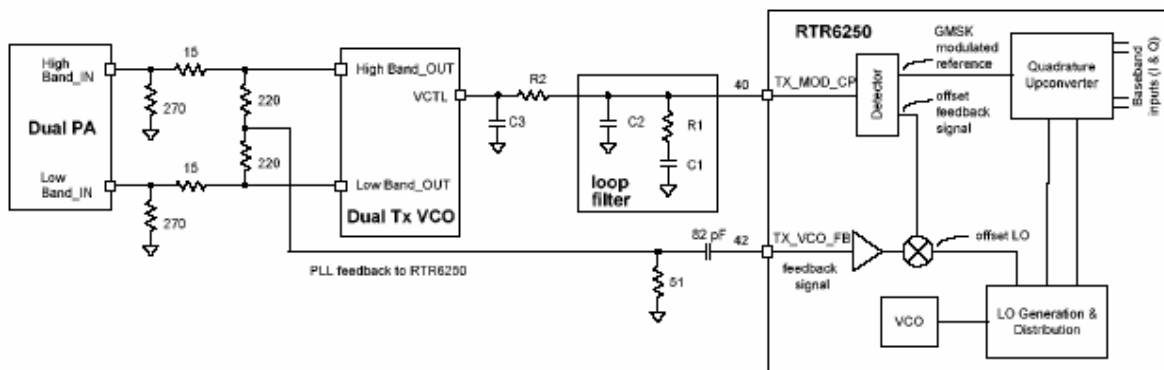

Figure 1.2.2-1 Offset phase-locked loop interfaces
The shared GSM Low-band (EGSM900) and High-band (DCS1800, PCS1900) transmit path begins with the baseband inputs from the MSM6275 IC. These differential analog input signals are buffered, lowpass filtered, corrected for DC offsets then applied to the GSM quadrature upconverter. The upconverter LO signals are generated from the transceiver VCO signal by the LO distribution and generation circuits within RTR6250. This upconverter translates the GMSK-modulated signal to a convenient intermediate frequency (IF) that forms one input to a frequency/phase detector circuit. This IF signal is the reference input to an offset phase-locked loop (OPLL) circuit as shown in Figure 1.2.2-1.